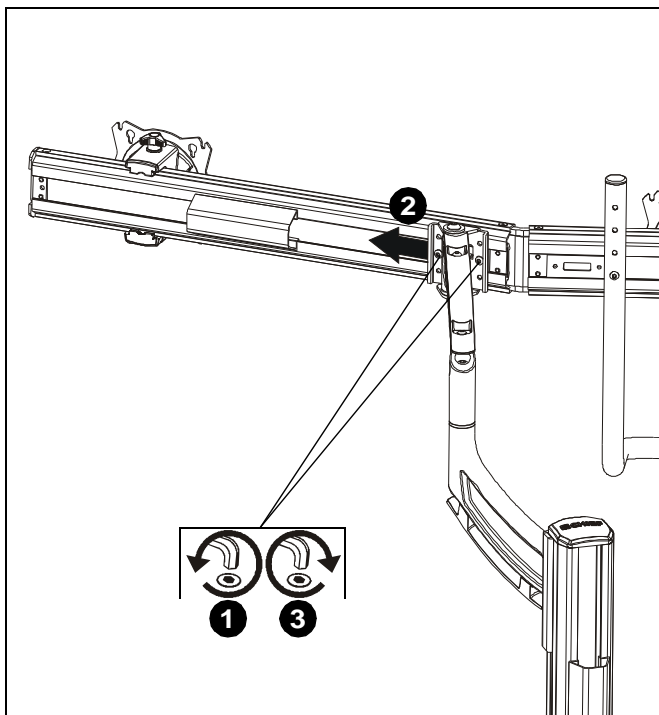

Figure 25
1. Loosen two screws holding column arms to outer array arms. (See Figure 25)
2. Lift up on array arm slightly and slide connection plate towards the outside of the array until an even mount is achieved. (See Figure 25)
3. Tighten two screws holding column arms to outer array arms. (See Figure 25)